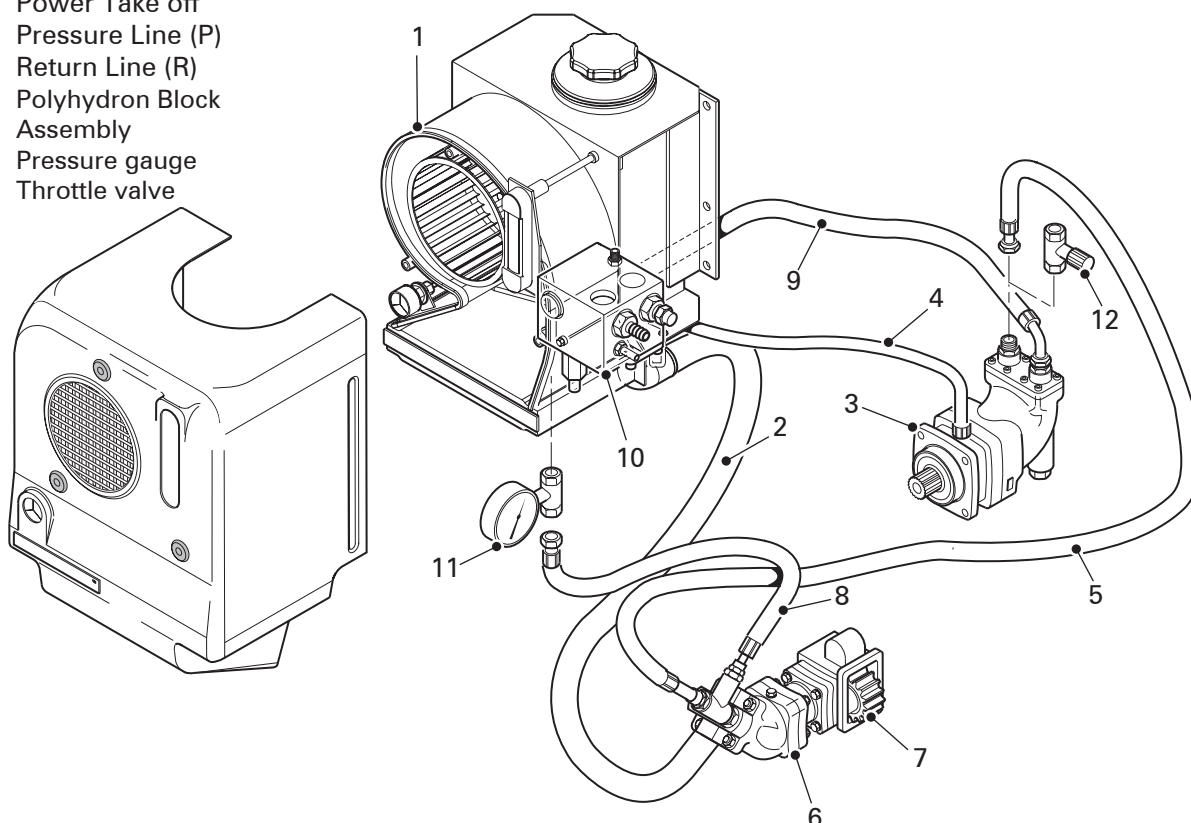
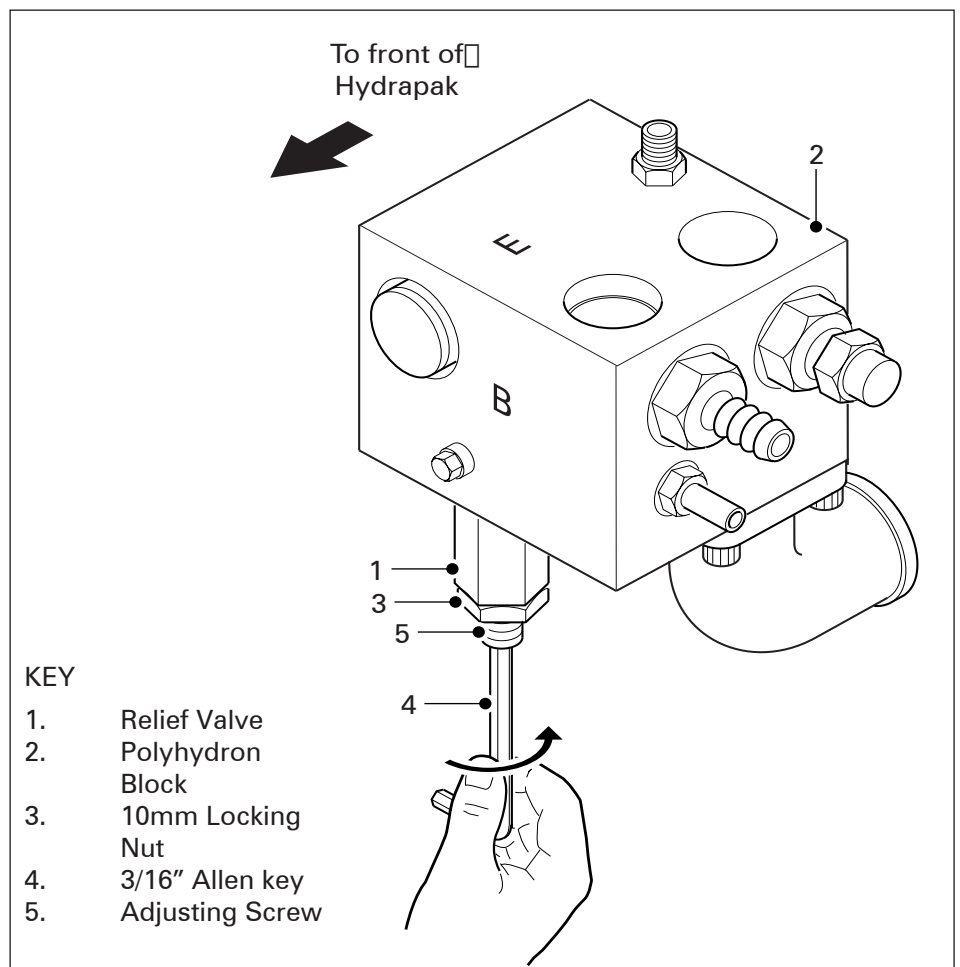

Fig. 7 Typical system layout
Fig. 8 Setting Relief Valve
To set the relief valve, a pressure gauge and a throttle valve must be connected into the pressure lines as shown in (Fig 7). Refer to Fig 8 for Relief Valve setting.
After draining the system and inserting a throttle valve and pressure gauge into the system (see fig 7):-
3. Using a 17mm spanner, loosen the locking nut on the relief valve adjusting screw (item 5).
4. Insert a 3/16" allen key (item 4) into the adjusting screw (item 5) and rotate as shown in an anti-clockwise direction to increase the by-pass pressure so that it is 30 bar above the normal working pressure.(Fig 8).
5. Drain the system then remove throttle valve and gauge (Fig 7 Items 11 & 12).